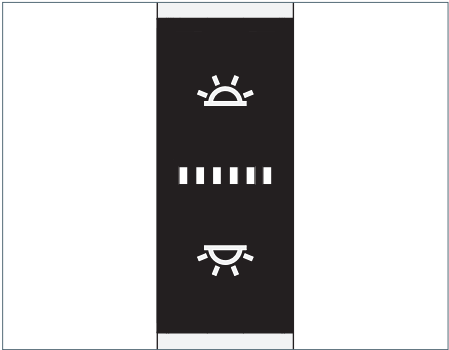

Fig. 13: Control element.
- Press the upper button, see Fig. 13.
- ▶ Press the lower button, see Fig. 13.
- ▶ Press the upper button and keep this button pressed, see Fig. 13.
- ▶ Press the lower button and keep this button pressed, see Fig. 13.